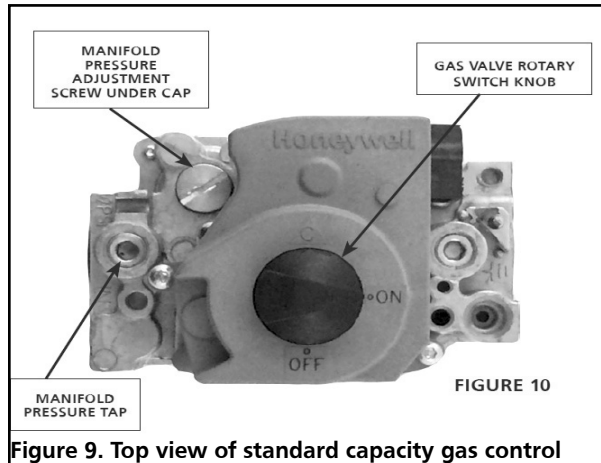

Figure 9. Top view of standard capacity gas control
- a. Remove pilot adjustment cover screw. Refer to Figure 9.